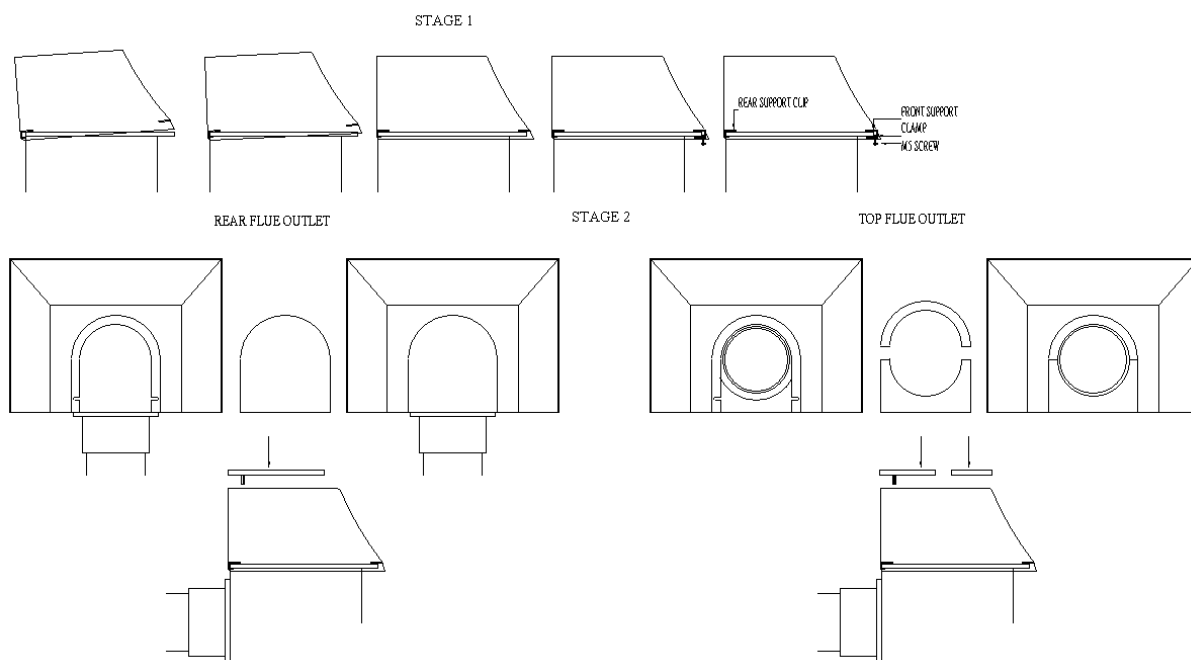

Fig 8
- To fit the interchangeable canopy (Fig 8): Remove the front clamps.